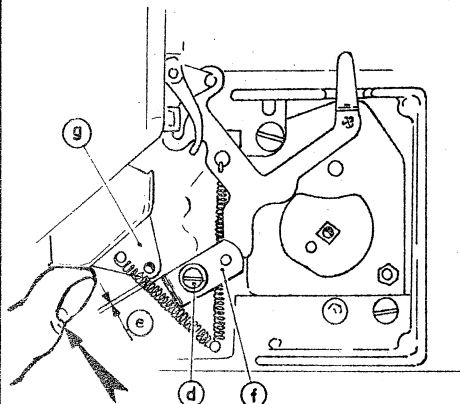

Fig.2
- Switch being set to "forward motion", fig. 2, loosen screw (d) and pivot plate (f) so that between that plate and guide element (g), pressed against its stop at the upper left hand side, there is a play (e) of
## 2. Film guiding channel, fig. 2